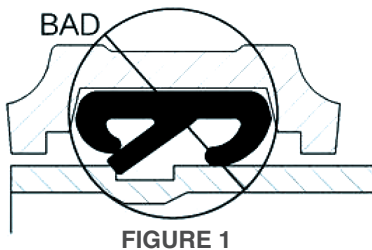

FIGURE 1
Step 3. Push the gasket/coupling onto one end of the pipe until the center stop of the gasket is in contact with the end of the pipe. The pipe end should not cross through the center stop of the gasket. (SEE FIGURE 1).